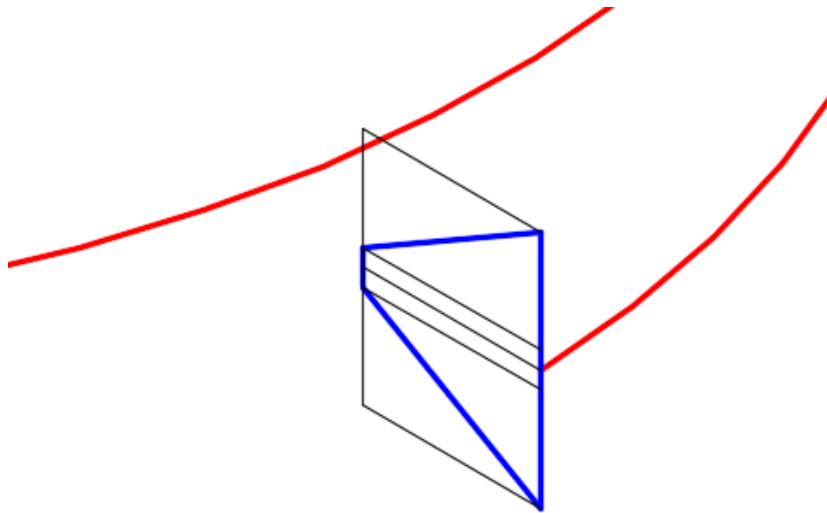

Figure Step 8
Step 8 On layer: Profile, snapping to the ends of the construction lines, draw the thread profile as a closed pline. (Figure Step 8)